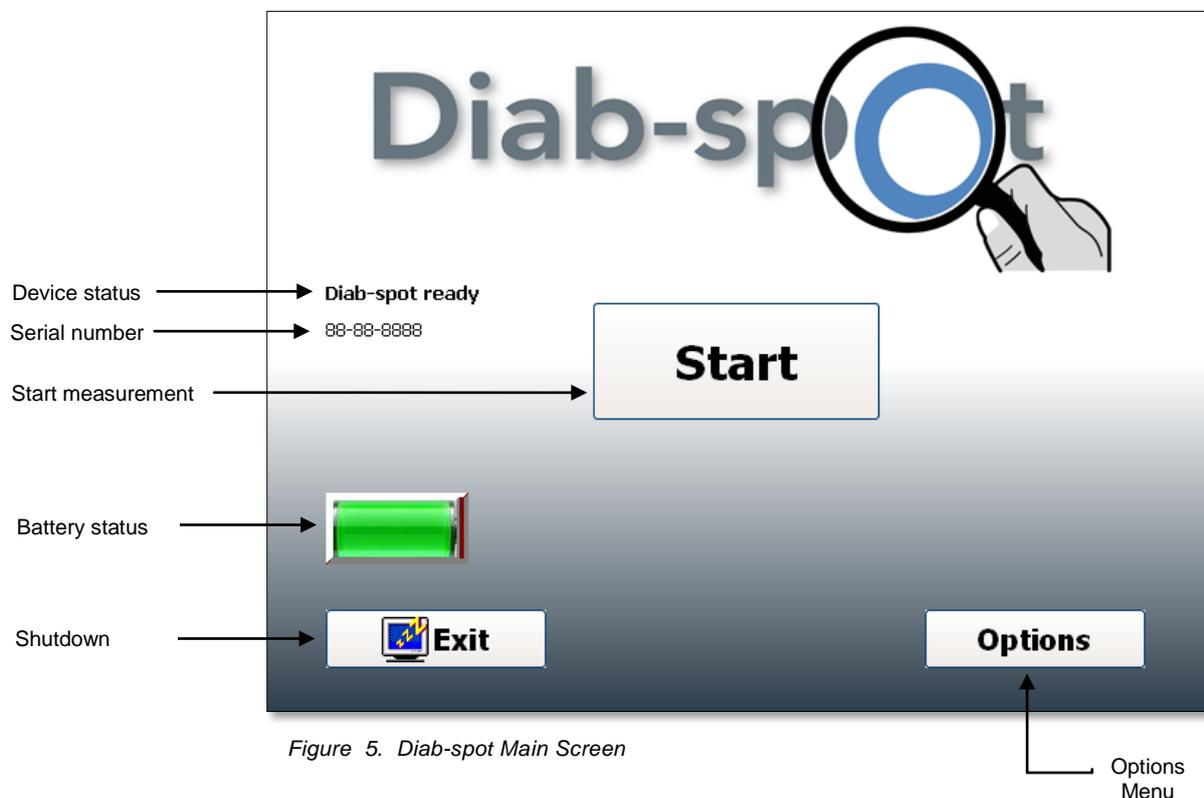
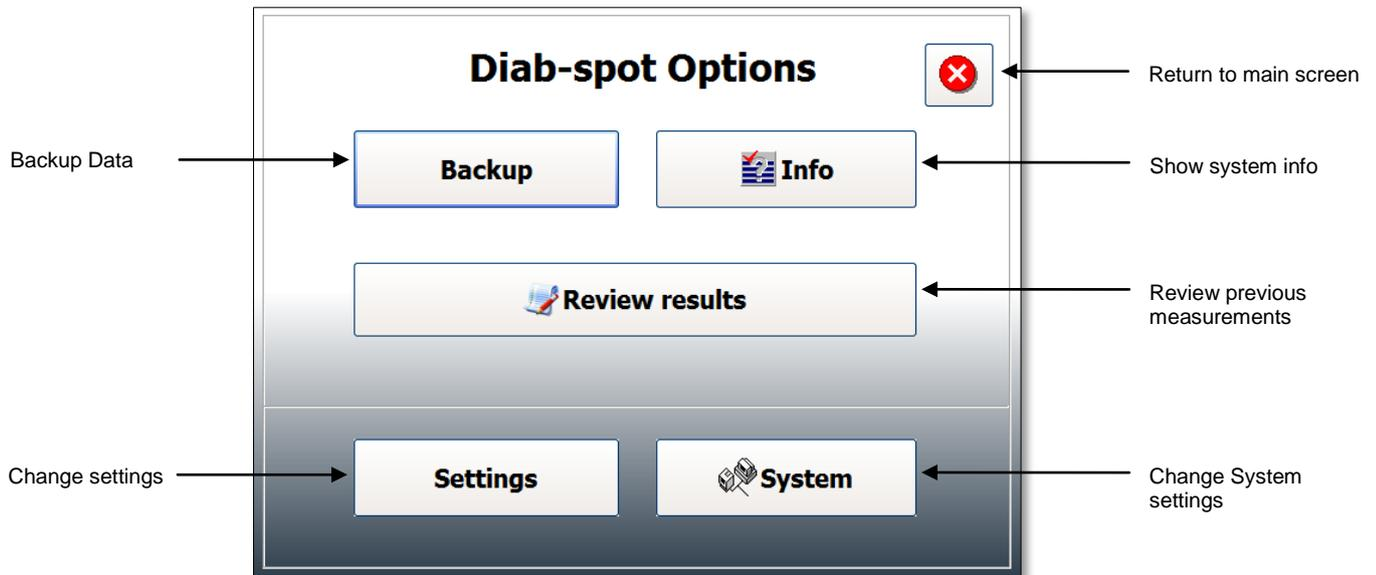
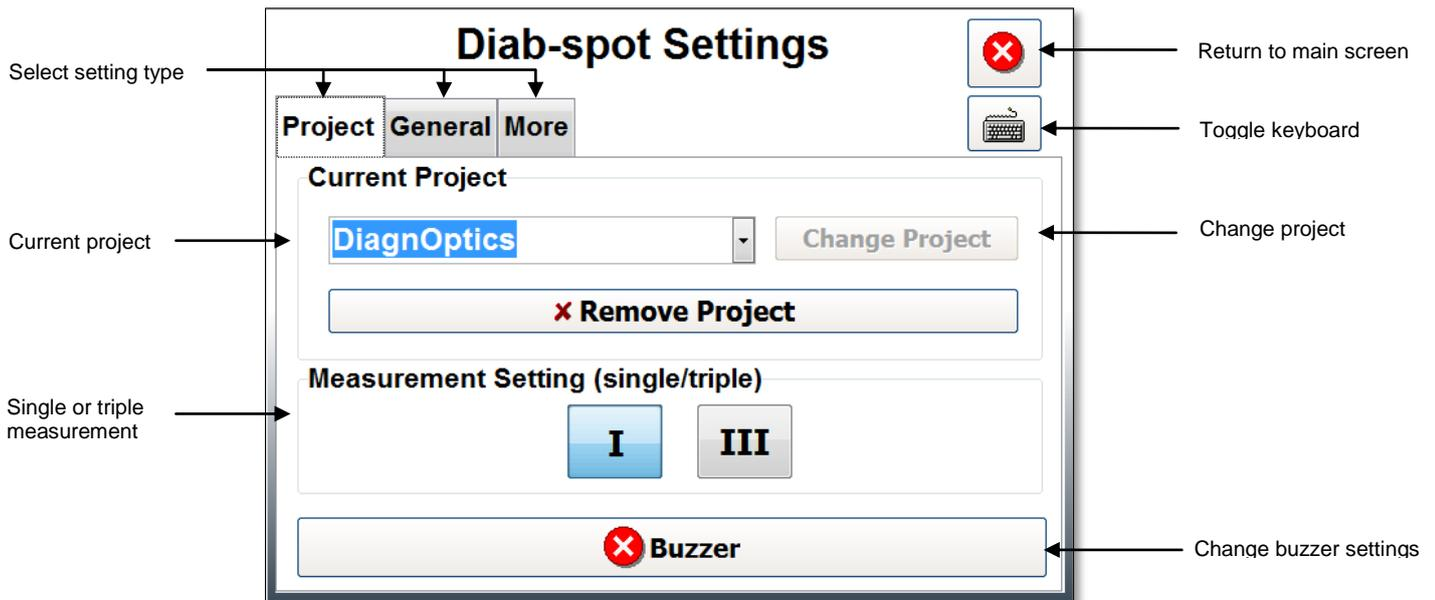
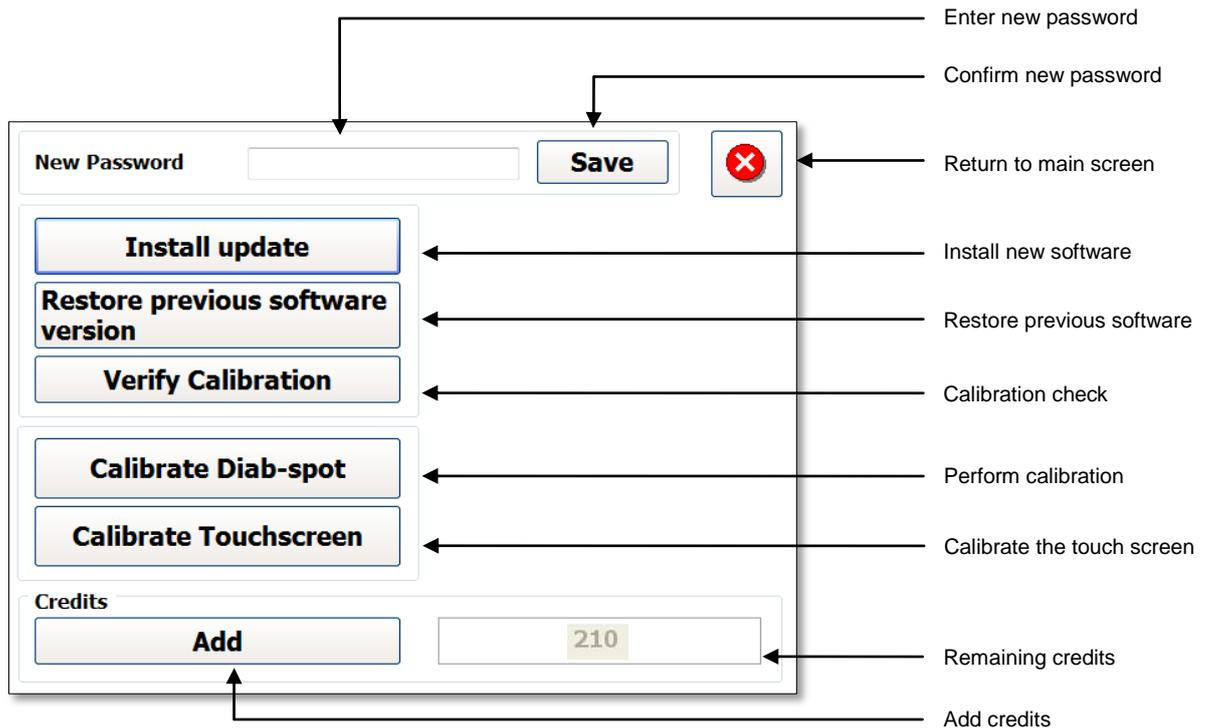

Figure 5. Diab-spot Main Screen
Figure 6. Diab-spot Options Menu
Figure 9. Diab-spot Project settings screen
Figure 12. Diab-spot System settings screen
The dedicated Diab-spot software is preinstalled and will start-up automatically. When the device is ready for use the 'main-screen' will appear (figure 5).
By choosing the 'Options' button in the main menu (figure 5) the 'Diab-Spot Options' menu will be opened where several settings can be changed. The 'Diab-Spot Options' menu is shown (figure 6). To exit this menu press the button with the cross in the upper right corner at the top of the screen, to return to the 'main screen'.
By choosing the 'Info' button in the 'Options menu' (figure 6) the 'Info' screen (figure 7), will be opened.
By choosing the 'settings' button in the options menu (figure 6), the 'Diab-spot settings' menu will be opened where settings can be changed. The 'Diab-spot settings' menu is shown in figures 9 & 10. After making the desired changes, pressing the button with the cross in the upper right corner at the top of the screen returns to the 'main screen'. The settings are stored in the selected project, so that each project can have its own settings.
1. *Project settings*, these settings affect the desired measurement preferences (figure 9).
By selecting the 'Project settings' tab, the menu will appear (figure 9).
By choosing the 'System' button in the 'Options menu' (figure 6) the 'System Settings' menu will be opened (figure 12).
In the field in the lower left corner of the screen the number of remaining Credits is displayed (figure 12). The remaining credits are also displayed in the 'Subject data screen'.
To start a measurement, press the “Measure” button in the main menu (figure 5). The ‘Subject Data’ screen will appear (figure 13).